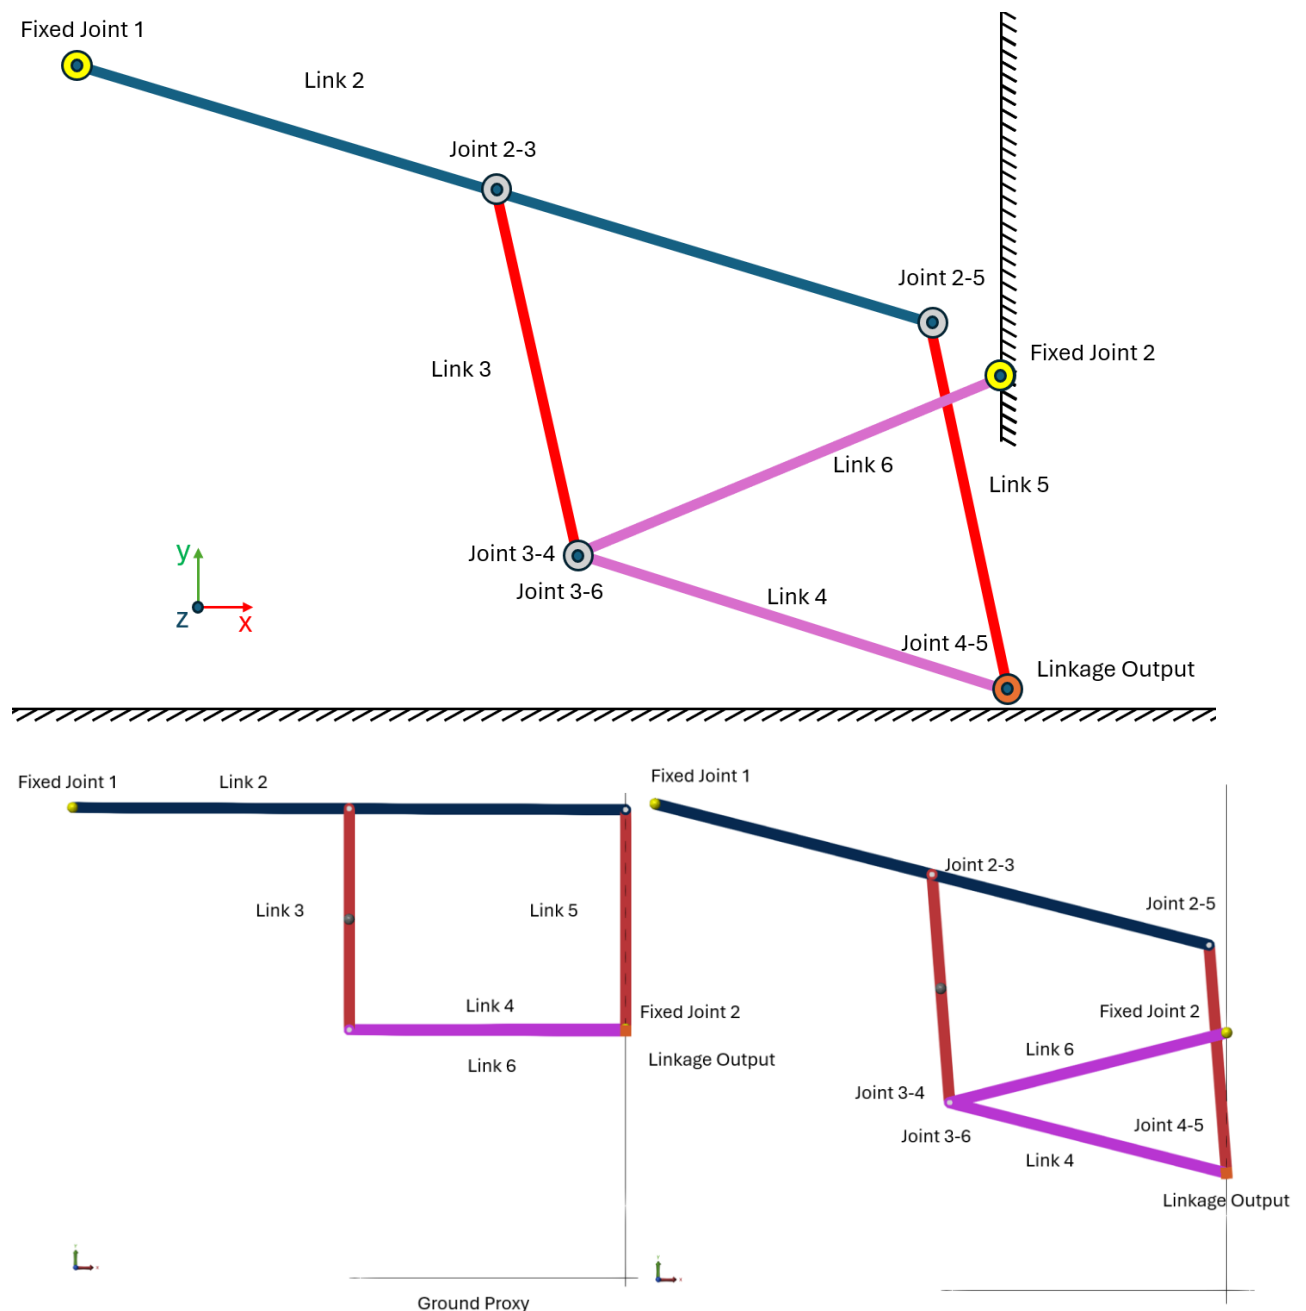
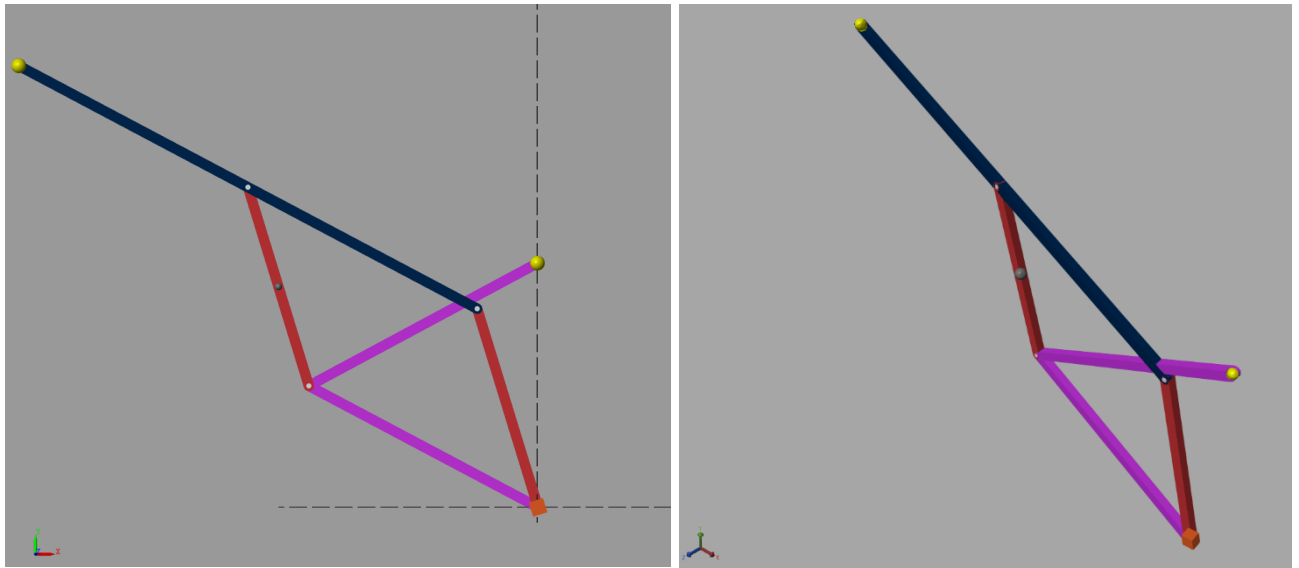

Figure 1A: Watt's parallel linkage schematic.
Figure 1B: Watt's parallel linkage Simulink simulation.
- Design a gear train which generates a specified amount of torque at the driver joint, denoted Fixed Joint 1 in Figure 1A.
Devised by Scottish engineer James Watt, the Watt parallel motion linkage is a six-bar mechanism that transforms rotational motion to near-linear motion. Originally invented in 1784 as part of his steam engine that contributed significantly to the industrial revolution, this linkage now is a constituent mechanism in automotive suspension systems. Specifically, it prevents the axle from moving side-to-side relative to the vehicle chassis during cornering. With the correct link lengths and position of the fixed joint, the output of the linkage can achieve linear up and down motion. One example of Watt's parallel linkage is shown in Figure 1A schematic, the corresponding Simulink model is shown in Figure 1B. Note that Joint 3-4 and Joint 3-6 are separated joints but located at the same point (link 3 is connected to both link 4 & 6).